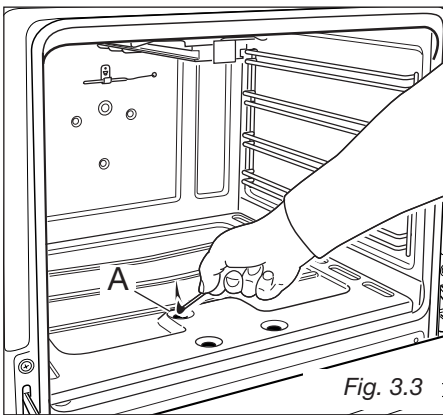

Fig. 3.3
- 3) Press the knob right down to prime the electric ignition. Keep the knob pressed. In case of power cut, press the knob and immediately approach a lighted match to the opening "A" (fig. 3.3).